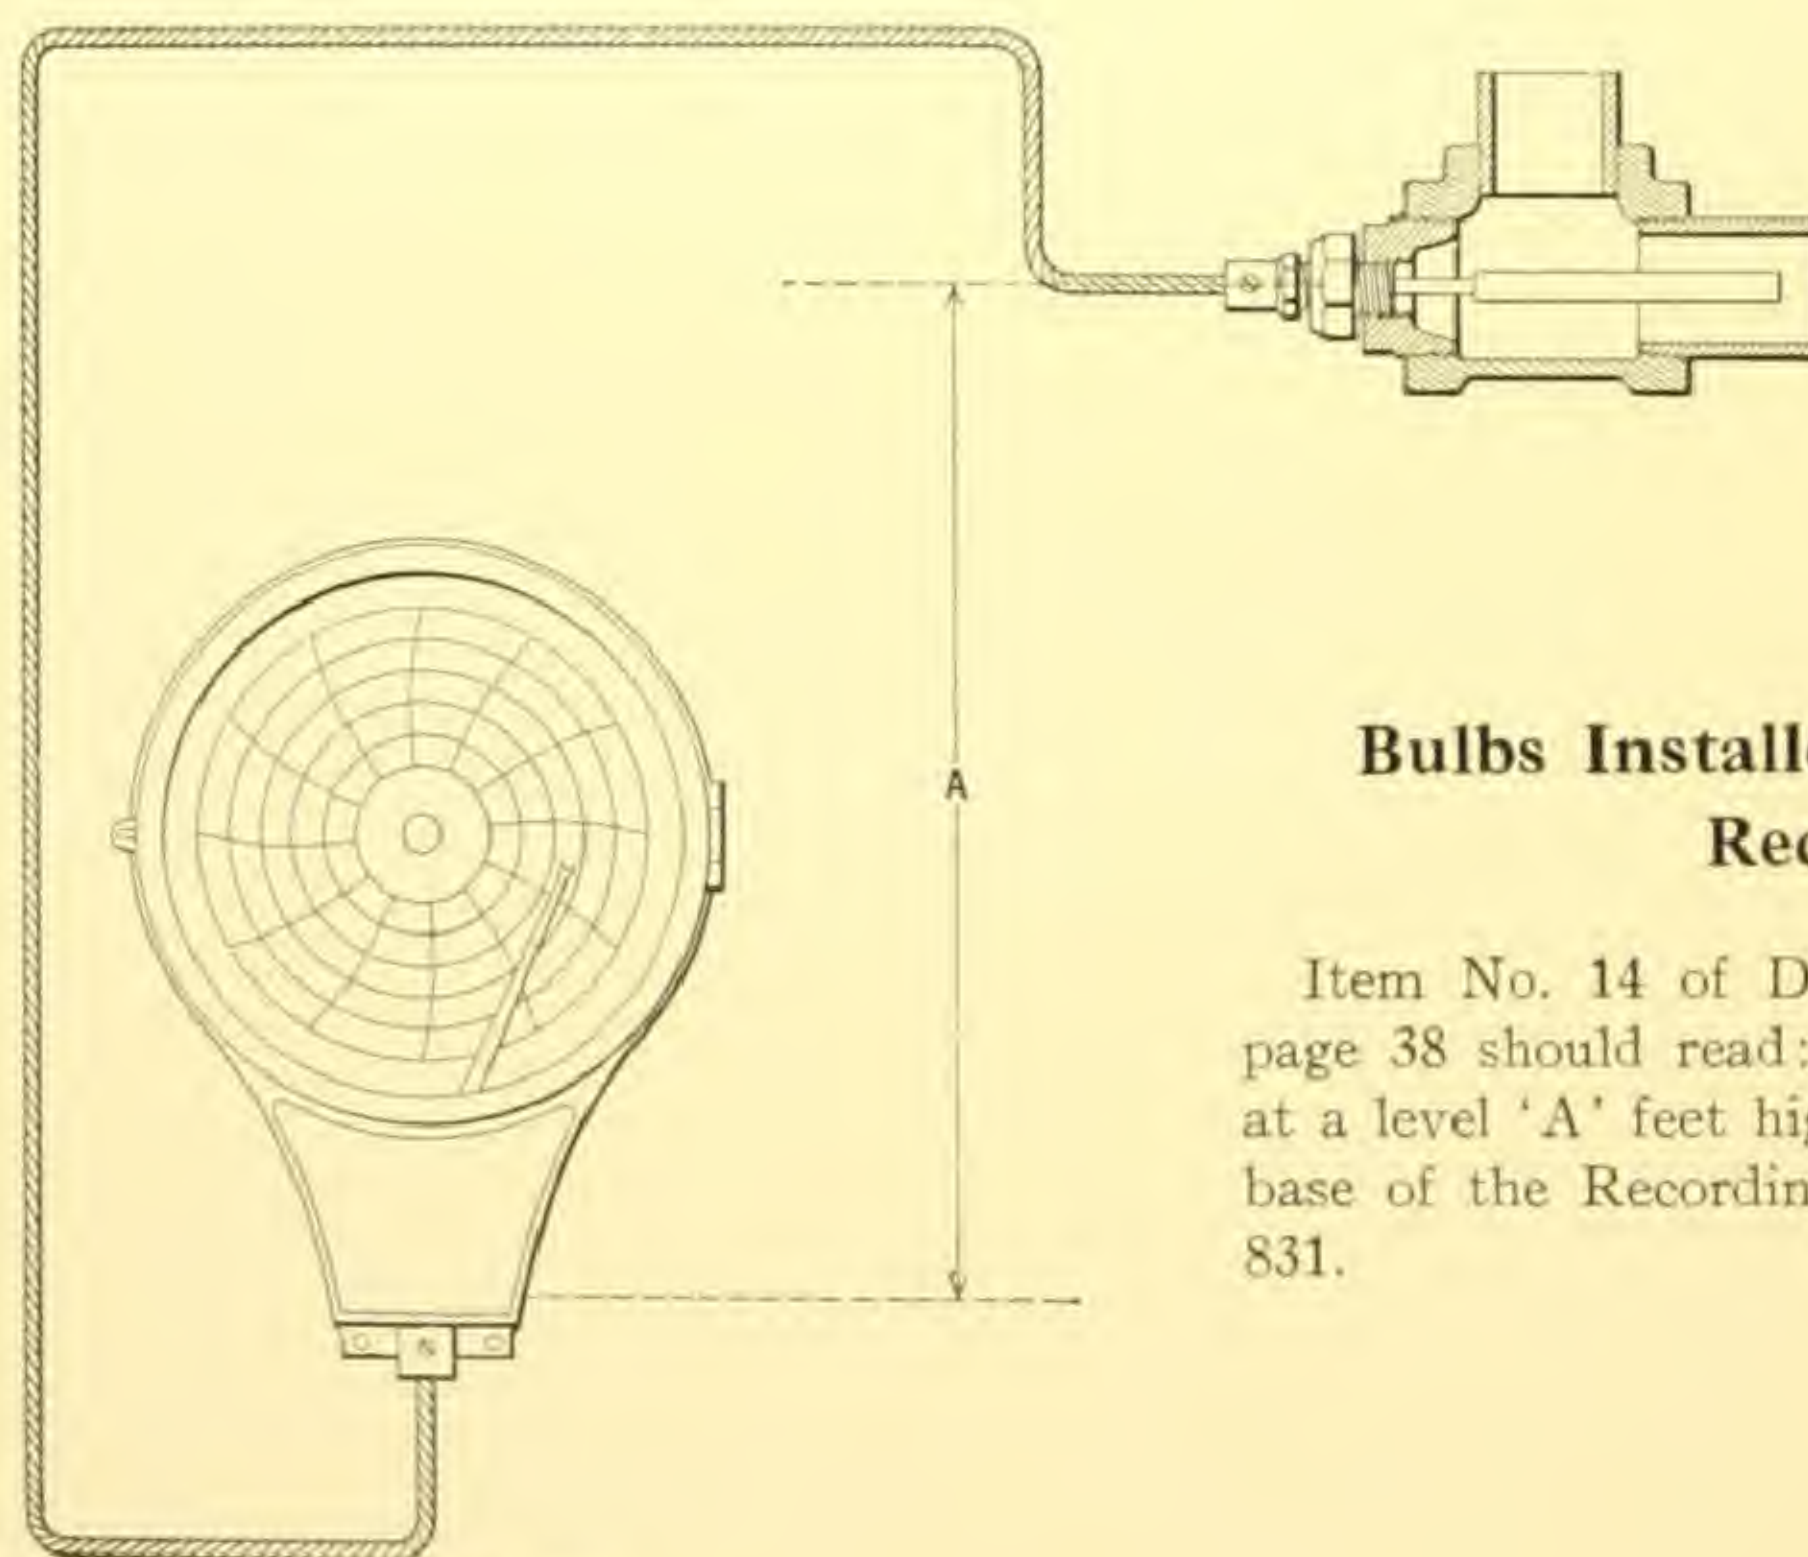
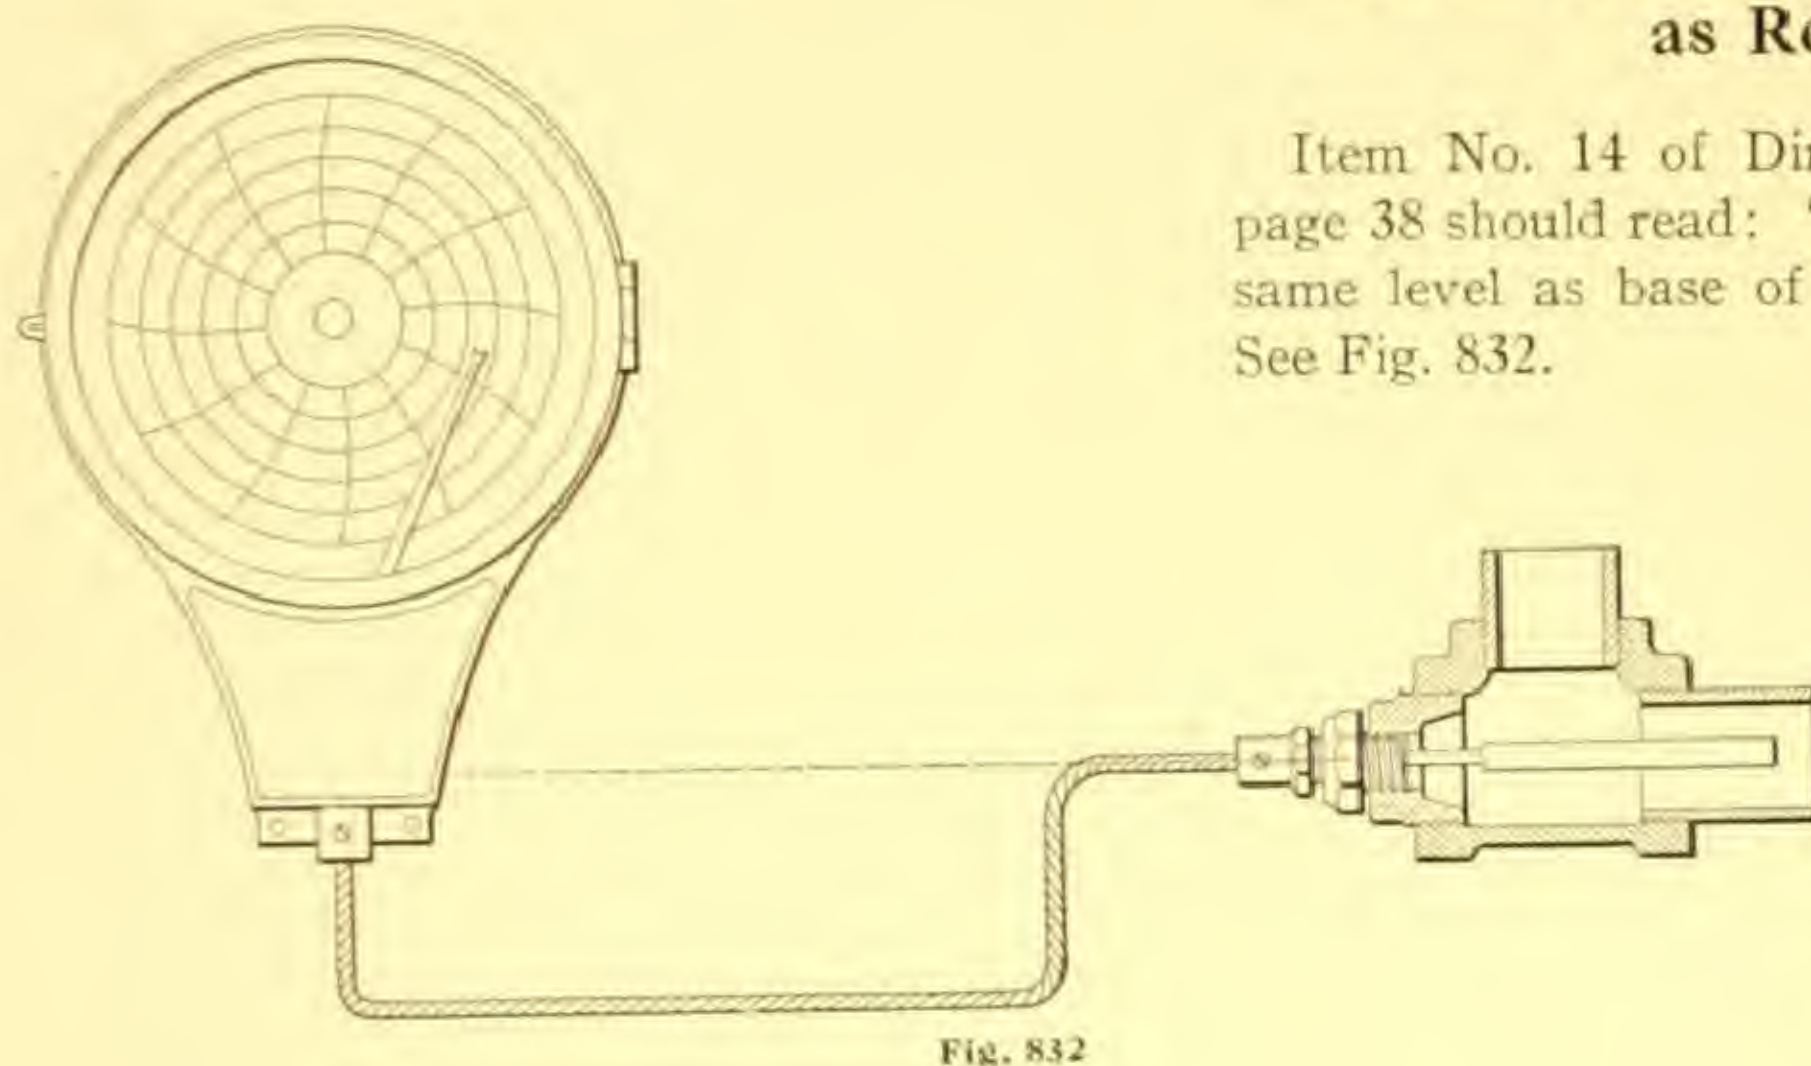
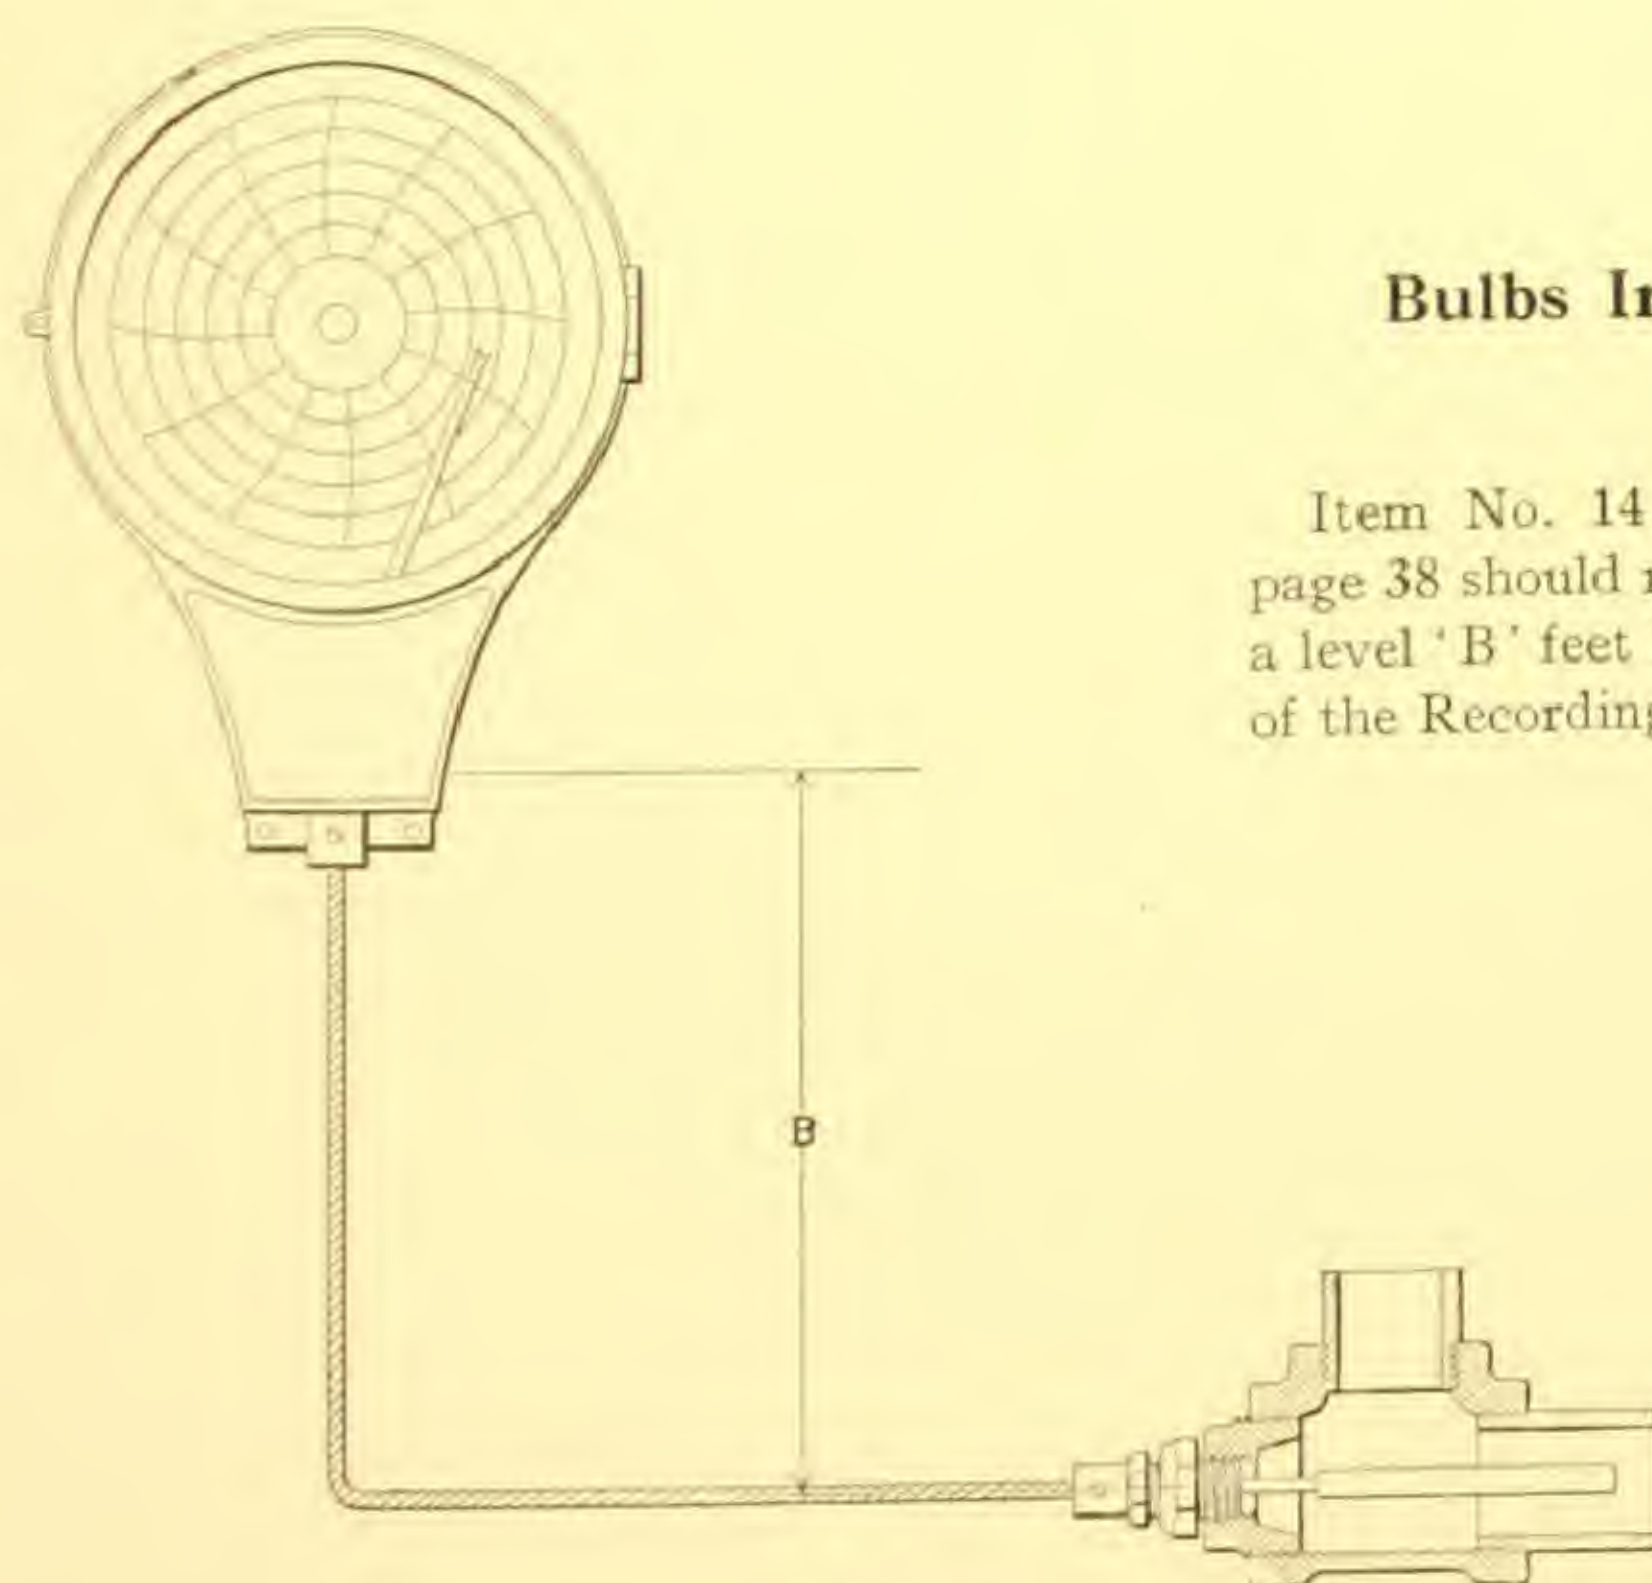

Fig. 831
Fig. 832
Fig. 833
ALWAYS specify bulb elevation as per item No. 14 of Directions for Ordering on page 38 when ordering Bristol's Class II Recording Thermometers. If Bulb is to be installed higher than Recorder, specify dimension "A" as per Fig. 831. For Bulb installed on same level as Recorder, specify as per Fig. 832, and Bulb installed lower than Recorder, specify as per Fig. 833.
Item No. 14 of Directions for Ordering on page 38 should read: "Bulb will be installed at a level 'A' feet higher than the level of the base of the Recording Instrument." See Fig. 831.
Item No. 14 of Directions for Ordering on page 38 should read: "Bulb will be installed at same level as base of Recording Instrument." See Fig. 832.
Item No. 14 of Directions for Ordering on page 38 should read: "Bulb will be installed at a level 'B' feet lower than the level of the base of the Recording Instrument." See Fig. 833.
i. e. (A) "Bulb will be installed at a level—'A'—feet higher than the level of the base of the recording instrument." (See Fig. 831, page 36.)